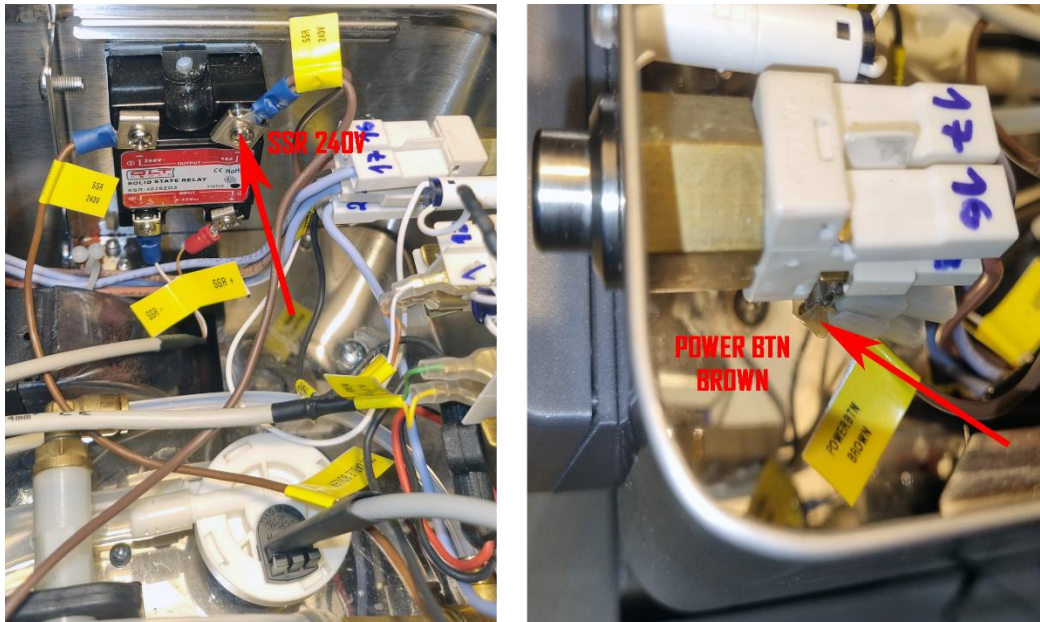

Fig. 7.5
- Connect the remaining brown cable (SSR 240V and POWER BTN BROWN PLUGS). SSR 240V goes to solid state relay 240V connection (upper-right). POWER BTN BROWN goes to buttons panel power button brown connection (left-down plug on the back of the existent connections) (fig. 7.5)